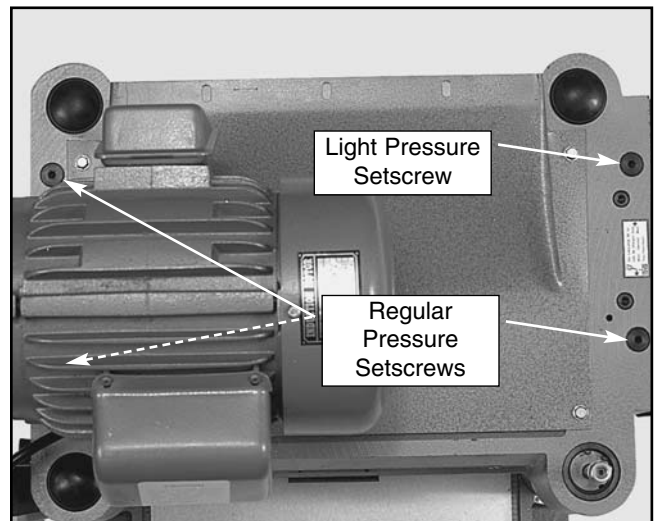

Figure 21. Roller pressure adjustment.
- Unscrew the four large pressure setscrews on top of the planer body. See **Figure 21**.